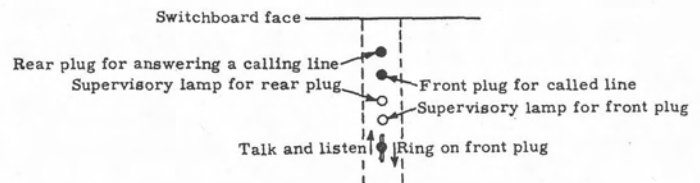

Fig. 60. Cord-circuit equipment for one connection.
*Figure 60 and the five small diagrams on page 20 depict a public-exchange switchboard for non-coin local service with no party lines. Public-exchange switchboards for jack-per-line party lines, etc., have additional keys. P.B.X. switchboards have ringing keys for both plugs, and their lamp signals behave somewhat differently, etc.